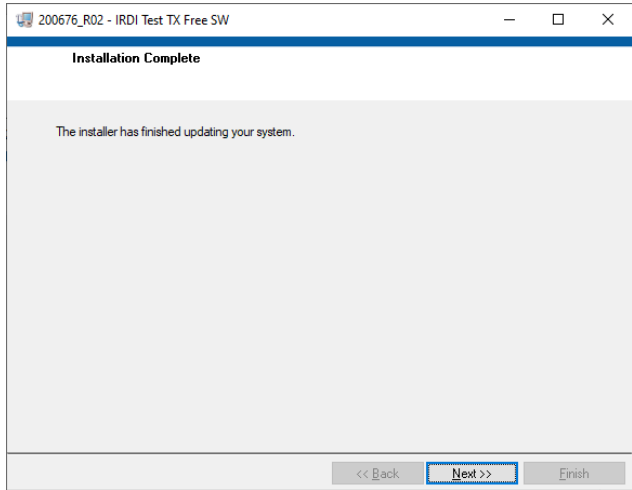

FIGURE 4-11 INSTALLATION COMPLETE
STEP 7	Installation Complete – see Figure 4-11. Click Next >>.